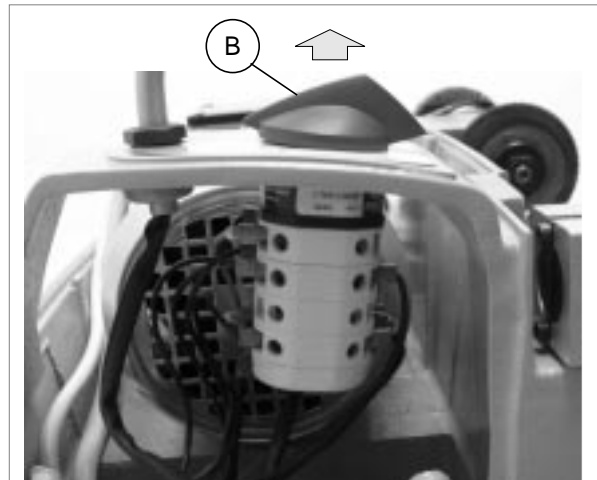
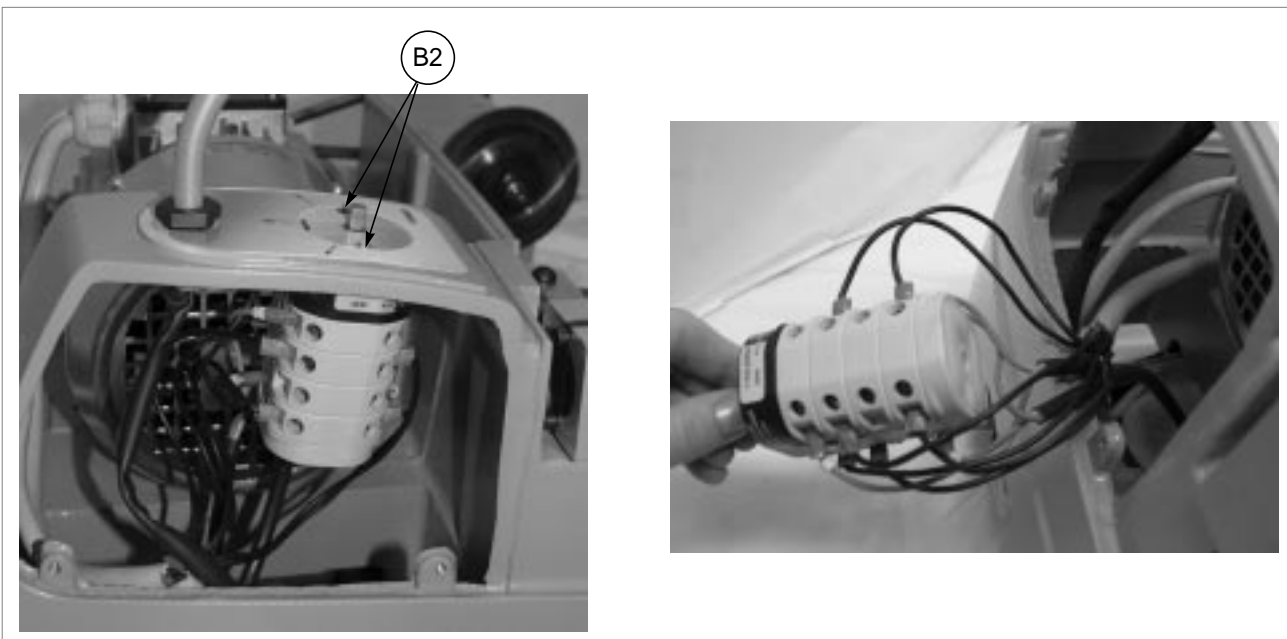

Fig. 35
Fig. 36
- 2) Remove the switch knob (B) and loosen the 2 fixing screws (B2) (fig. 35 and fig. 36).
- 7) Replace the commutator knob (B).
- 11) Pull out the commutator knob (B) and loosen the 2 fixing screws (B2) (fig. 36, page 21).
- 24) Push the switch upwards to fit into its seat. Secure with the 2 screws (B3) and replace the knob (B) (fig. 35 and fig. 36).